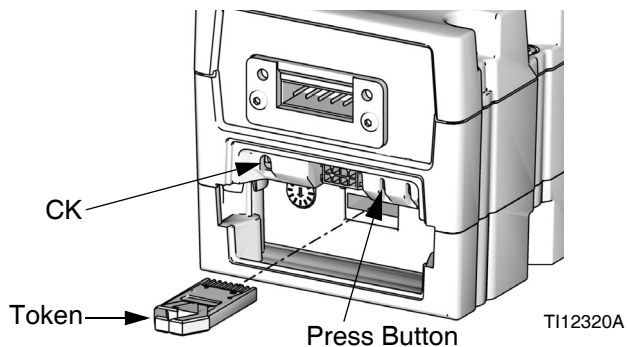

FIG. 47: Insert Token
4. Press and hold the button shown in FIG. 47 for ~1 second, then release. The red indicator light (CK) will flash until new software is completely loaded.